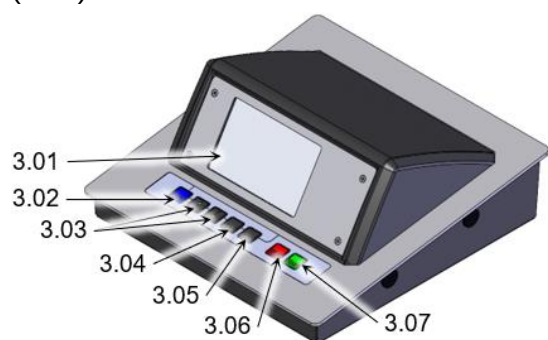

FIG. 2 FRONT VIEW OF ELECTRONIC UNIT
- Switch on the electronic unit by pressing power supply switch (3.08, Fig.2).
The display (3.01, Fig.2) reads:
- Press FUNC-key (3.02, Fig.2)
- Confirm by OK-key (3.05, Fig. 2).
- or put in another language by arrow keys (3.03, Fig.2).
- Confirm by OK-key (3.05, Fig.2).
The display (3.01, Fig.2) reads e.g.
- or put in other brightness by arrow keys (3.03, Fig.2).
The display (3.01, Fig.2) reads
- or set by arrow keys (3.03, Fig.2) for **Reset : Yes** and confirm by OK-key (3.05, Fig.2).
- Confirm reference point by OK-key (3.05, Fig.2).
The display (3.01, Fig.2) shortly reads:
- Set reading of the measuring device for "0" by pressing the OK-key (3.03, Fig.2).
Display (3.01, Fig.2) reads: